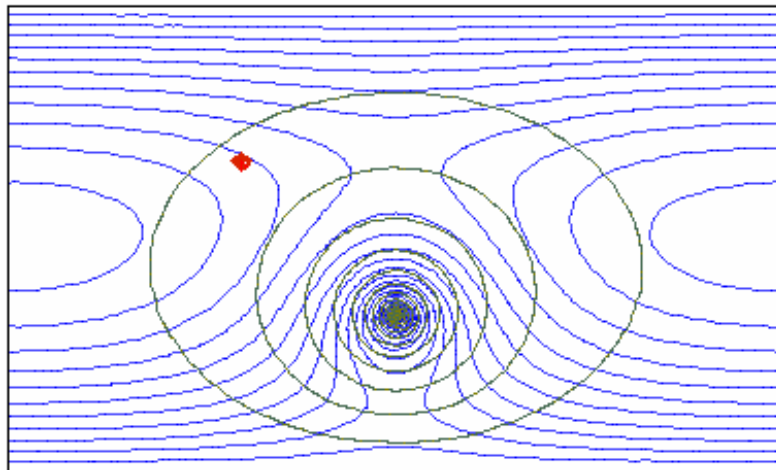

Figure 50: Computed well drawdowns (green)
7. Go to Drawing mode and check that h0 is still selected. Click on the green square in the palette (contours will now be green). Then click on the -button, select a contour interval of 1 m in the pop-up window and click on the OK-button (or press the Enter-key). You will see a contour map like in Figure 50:
3. To contour these drawdowns: Go to Drawing mode, click on the green square in the color palette and then on the -button. Again select a contour interval of 1 m and press the Enter-key. The result should be exactly the same as in Figure 50.